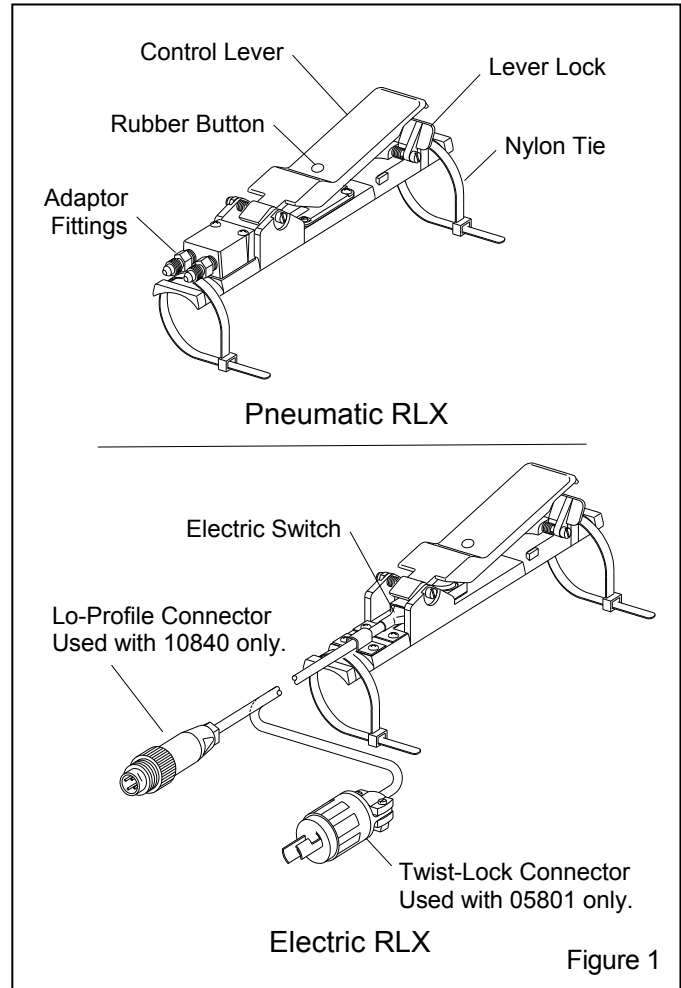

Figure 1
**1.4.1** The principal components of the remote control handles are shown in Figure 1. The control handle is the main activator of Clemco remote control systems. When the control lever is up, it is in the nonblast position. Pressing the control lever down activates the remote controls.